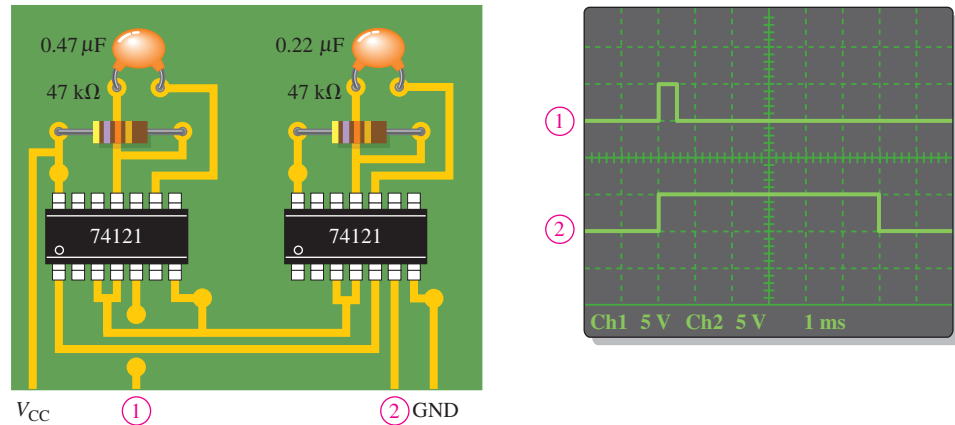

FIGURE 7-96
38. Two 74121 one-shots are connected on a circuit board as shown in Figure 7-96. After observing the oscilloscope display, do you conclude that the circuit is operating properly? If not, what is the most likely problem?